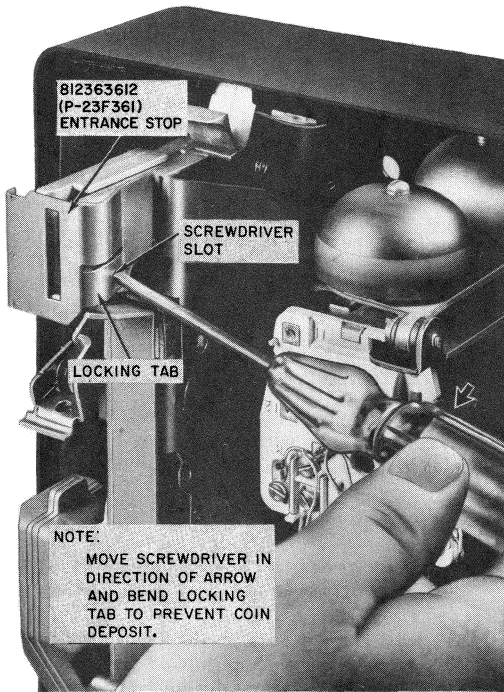

Fig. 60—Operation of Entrance Stop
Note 2: Do not install this kit on sets where the entrance stop has been positioned off normal as shown in Fig. 60.
5.44 The entrance stop (Fig. 60) is installed on the chute to minimize coin losses due to chute stuffing. When the coin release lever or knob is operated or a stuffing condition exists the entrance stop moves sideways and closes the coin slot.
5.46 A prefabricated locking tab arrangement can be bent with a screwdriver (Fig. 60) to hold the upper plate assembly off normal. This will prevent customer coin deposits in newly installed cointelephonesetsawaitinginitialserviceconnections, or those that are out of service which require further maintenance or repair.
Warning: Do not put a set out of service as shown in Fig. 60 if a magnetic coin stop exists, without first removing the coin stop. The magnetic coin stop can be stored in set until service is restored at which time it can be reinstalled. Install an **OUT-OF-SERVICE** sticker.